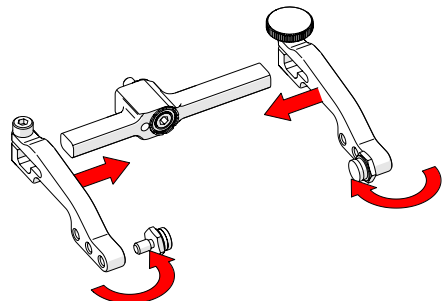

Fig. 161 - Attach arms & move buttons
5. Place the pivot buttons on the inside of the probe holder arms (Fig. 161) using a 3/8 in wrench (Fig. 51).